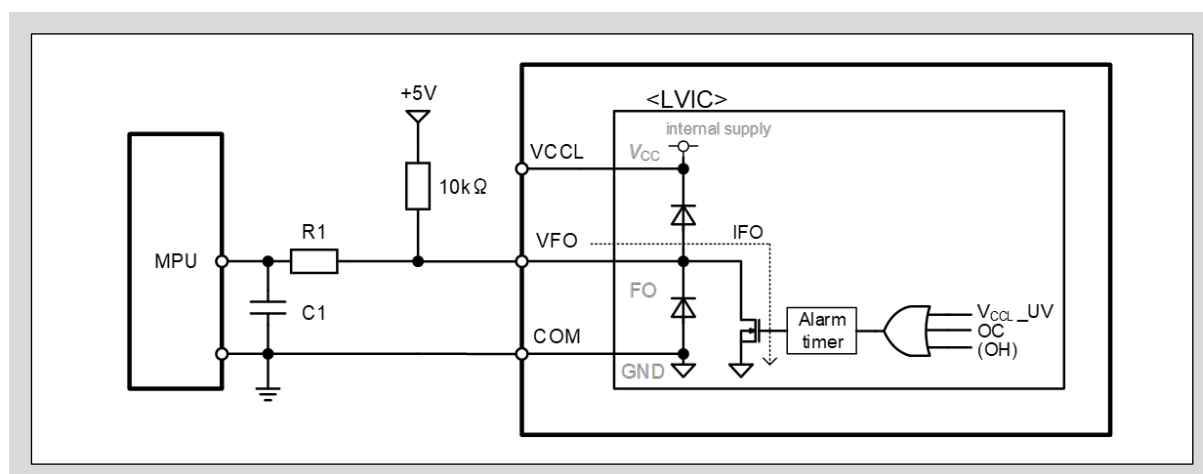
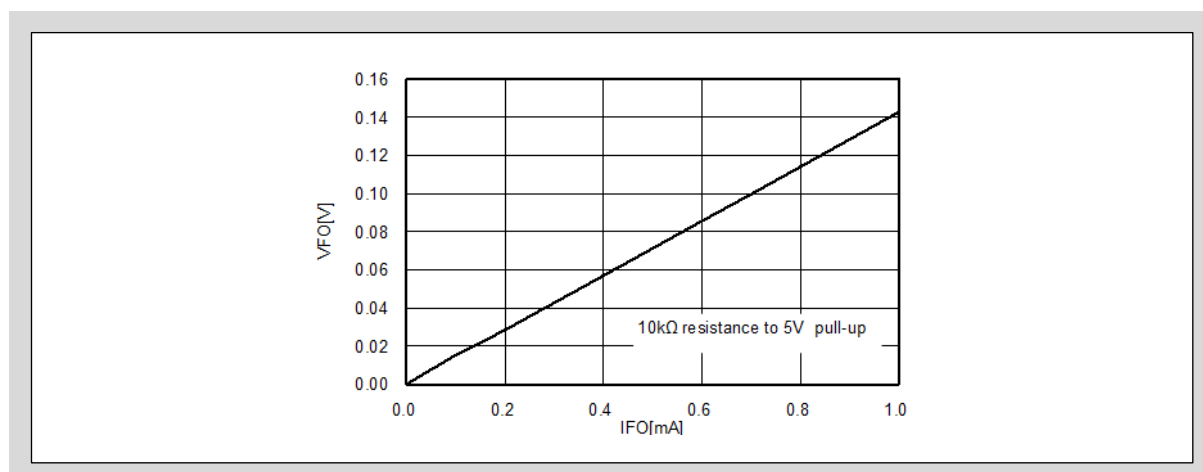

Fig.3-21 Recommended MPU I/O Interface Circuit of VFO terminal
Fig.3-22 Voltage-current Characteristics of VFO terminal at the fault state condition
- As shown in Fig.3-21, it is possible to connect the fault status output VFO terminal directly to the MPU. VFO terminal is open drain configured, thus this terminal should be pulled up by a resistor of approximate 10kΩ to the positive side of the 5V or 3.3V external logic power supply, which is the same as the input signals. It is also recommended that the by-pass capacitor C1 should be connected at the MPU, and the inrush current limitation resistance R1, which is more than 5kΩ, should be connected between the MPU and the VFO terminal. These signal lines should be wired as short as possible.
- Fig.3-21 shows that the diodes in the IPM are electrically connected to the V_{CC} -VFO and V_{CC} -COM terminals. Do not use these diodes for voltage clamp purpose otherwise the product might be damaged.
- Fig.3-22 shows the Voltage-current characteristics of VFO terminal at fault state condition. The I_{FO} is the sink current of the VFO terminal as shown in Fig.3-21.